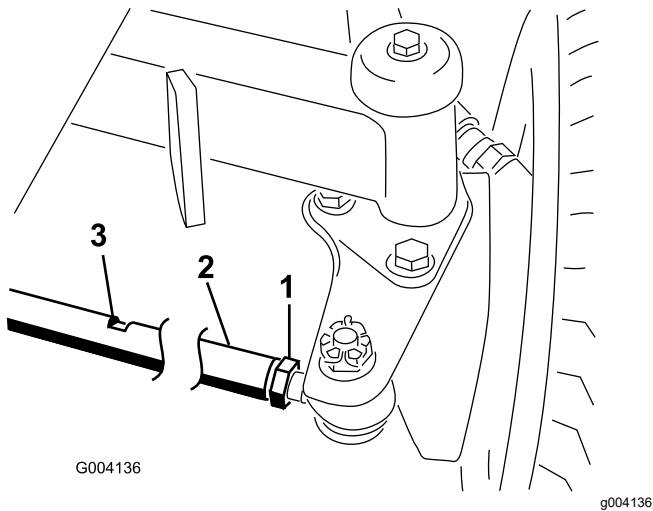

Figure 61
2. Loosen the jam nut on each end of the tie rod (Figure 61).
3. To pivot the wheels, rotate the tie rod to by turning it at the wrench flats (Figure 61).
6. Tighten the jam nut on each end of the tie rod (Figure 61).